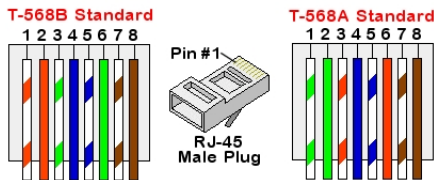

Figure 32: Standard cable wiring
- c. Insert the eight wires into an RJ45 connector, as described in *Figure 32*
7. For the switch/router side, use a pre-terminated cable or use a crimper to prepare an RJ45 communication connector: Insert the eight wires into the RJ45 connector in the same order as above (*Figure 32*).